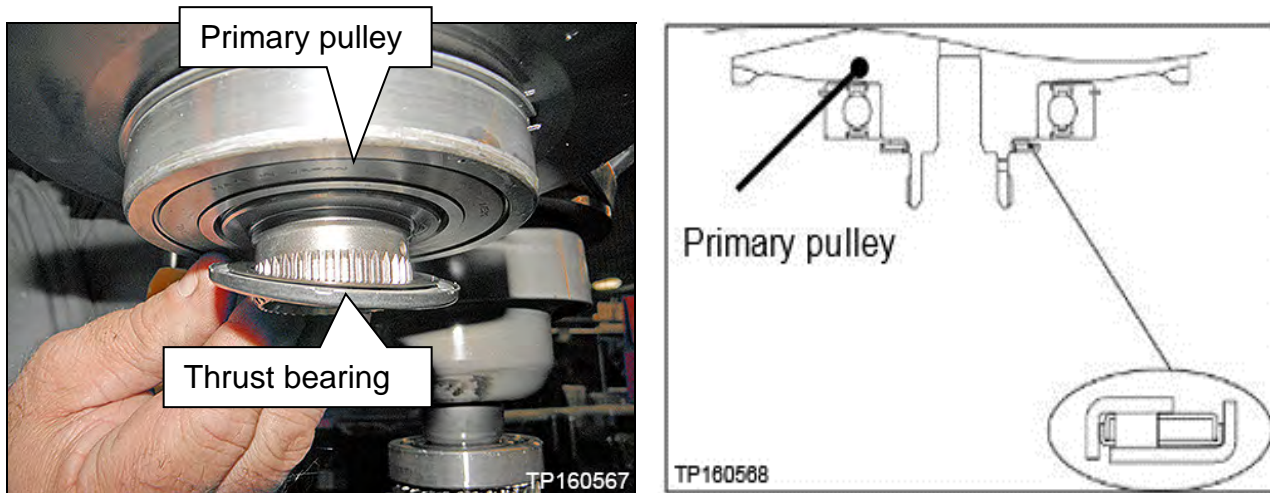

Figure 21F
18. Install the original thrust bearing on the primary pulley of the new sub-assembly part (Figure 21F).
CAUTION: The thrust bearing has two sides. Reference Figure 21F for bearing orientation.